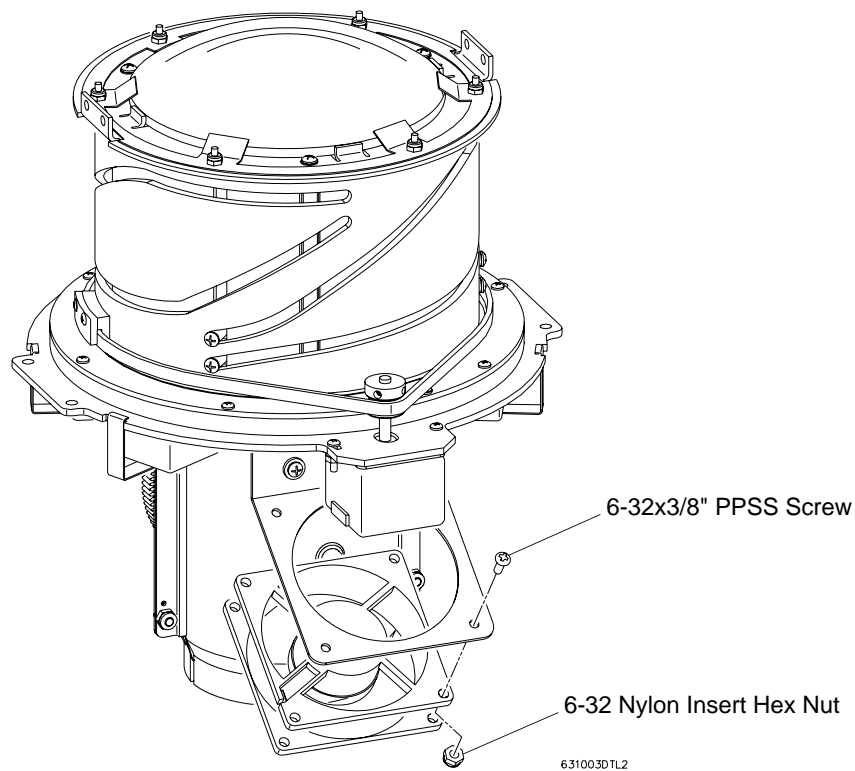

Figure 2-19: Fan/Temp Switch Assembly Replacement
- Step 3. At fan, remove four 6-32 x 3/8 " PPSS black screws and 6-32 nylon insert hex nuts and remove fan/temp switch assembly (**Figure 2-19**).